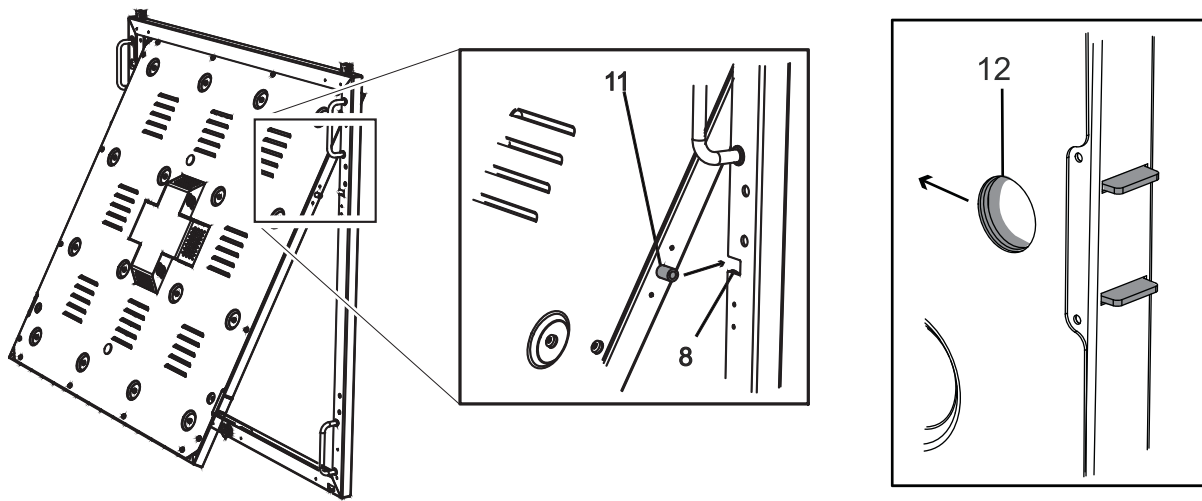

Figure 1: Panel mounts
1. See Figure 1. Slide the panel mounts (11) into the panel mounting slits (8).
2. Retract the panel locks (12) by pushing them towards the centre of the panel.
3. Align the panel with the frame and release the panel locks (12) to lock the panel into the frame.